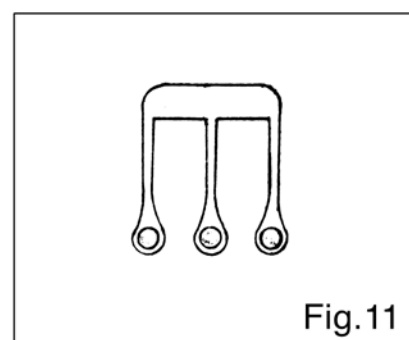

Fig.11
- (1) Be sure insert the needle into the Needle Holder as far as it can go.
- (2) After the Needle Bar adjustment, please make sure that every needle are passed though the center of the needle hole on the Needle Plate. Beside, the three needles must be in parallel and the gap must be even. (Fig.11)